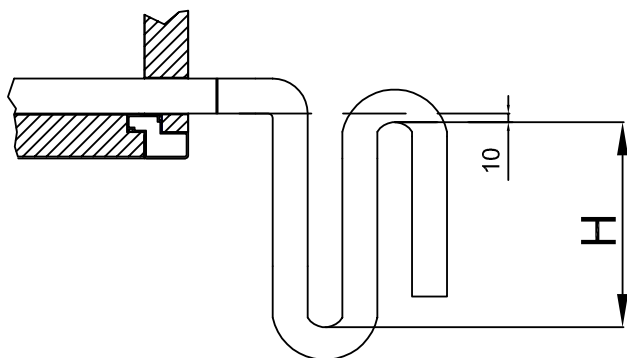
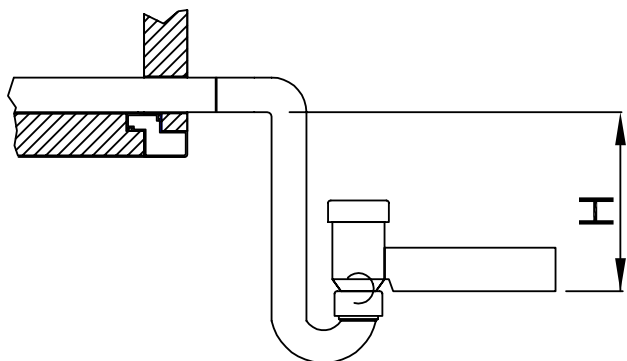

Figure 33
Figure 34
- Below the installation of positive pressure siphon (Figure 33) and the installation of negative pressure siphon (Figure 34) is shown.